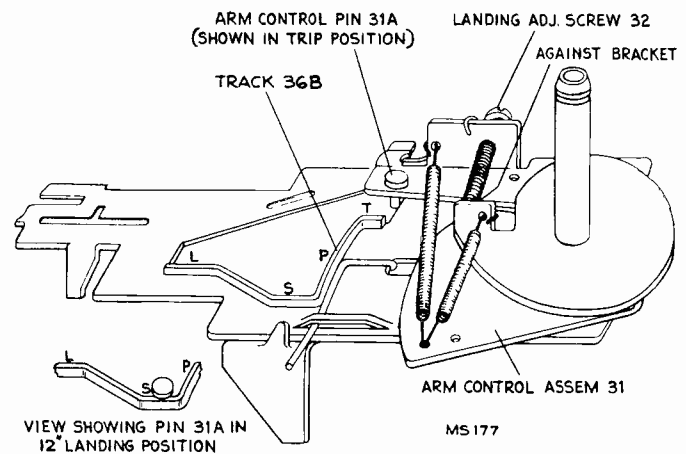

FIG. 8
1. With the mechanism out of cycle turn adjustment screw 32, fig. 8, clockwise as far as it will go, then turn counterclockwise two or three full turns.
3. Press down on the reject button and rotate the turntable by hand, causing the mechanism to cycle until the pickup is about to land on the record. In this position, the arm control pin 31A is in a position on track 36B as indicated by "s" and adjustment screw 32 remains against bracket 31C as indicated in fig. 8.
The exact landing adjustment can be made by pressing the reject button and rotating the turntable by hand until the pickup is about to land. Then turn adjustment screw 32, fig. 8, until the sapphire is directly above the starting groove of the record. If the mechanism continues to land incorrectly after this adjustment has been made, compensate the difference by turning the screw 32 slightly. Turning screw counterclockwise will move the landing towards the center post.